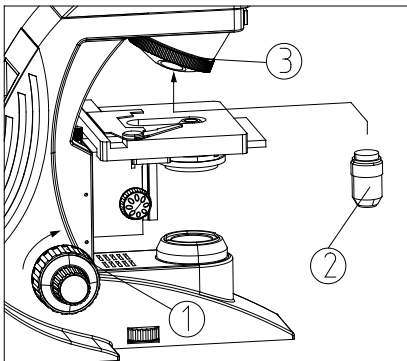

Figure 6
1. Adjust coarse focus knob ① to lowest position. (Figure 6)
2. Install objectives to the nosepiece from 4X to 100X clockwise. (Figure 6)